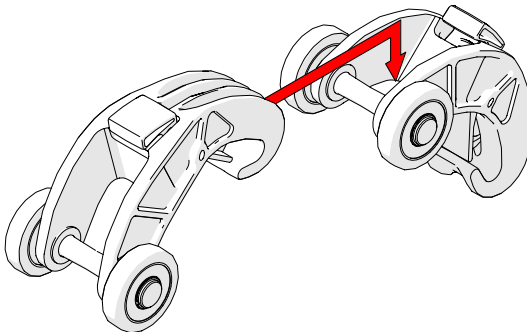

Fig. 70 - Lift the hook over the axle of the QuickLink
1. Lift the hook of the QuickLink over the axle of the QuickLink that is to be connected (Fig. 70).